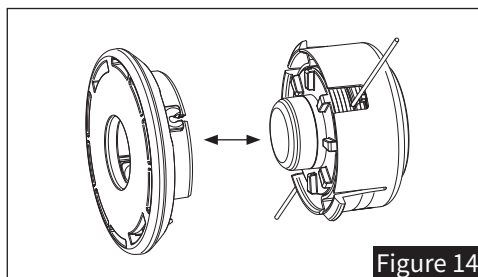

Figure 14
- Pull off the line guard cap from the line spool by forcefully pressing between the retaining plates (see Figure 14).